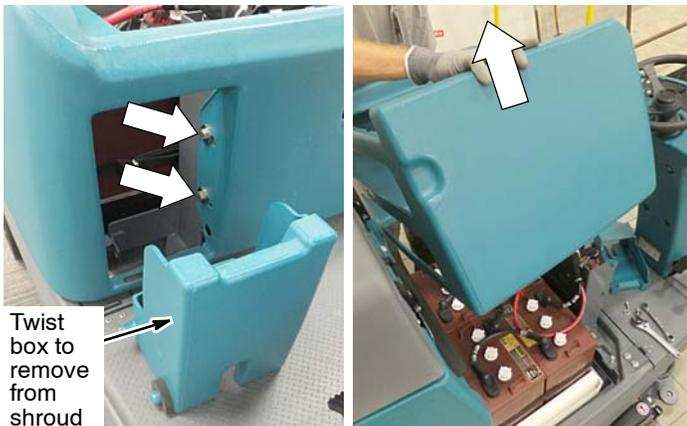

Fig. 2
3. Remove the small box from the battery compartment shroud to access the two mounting screws that secures shroud. Remove screws and lift battery compartment shroud from machine (Figure 2).